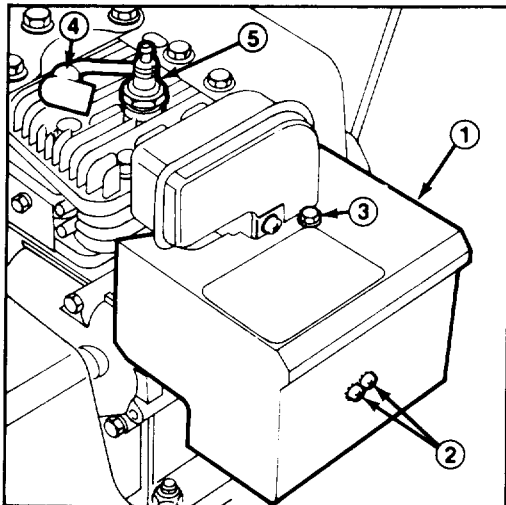

Figure 15
**Note:** (Model 521 only) If engine is operated when temperature is +40° F (4° C) or higher, remove carburetor heater box (Fig. 15). However, the heater box must be reinstalled when temperature falls below +40° F (4° C). To remove heater box:
- A. Remove phillips screws and hex head screw securing heater box in place. Pull choke knob off choke rod (Fig. 15).
1. Push high tension wire onto spark plug (Fig. 15).
To prevent accidental starting of the engine while performing maintenance, rotate ignition key to off and remove it from the switch. Next, pull high tension wire off spark plug (Fig. 15) and make sure wire does not accidentally touch the plug.